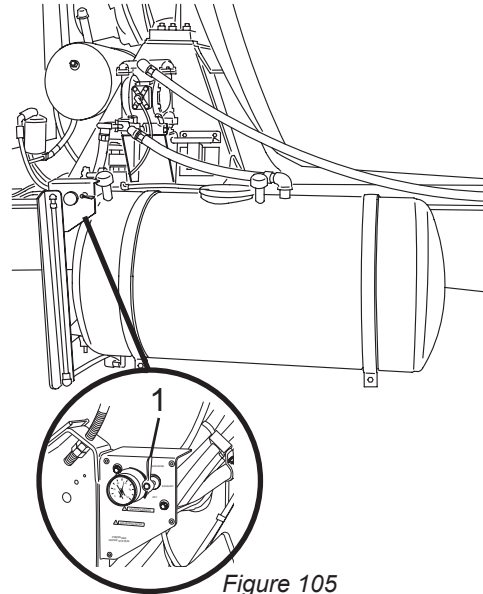

Figure 105
1. Turn the air pressure control valve (Figure 105, Item 1) to the PRESSURIZE position to start the pump.
To stop the pump, turn the air pressure control valve (Figure 105, Item 1) to the OFF position.